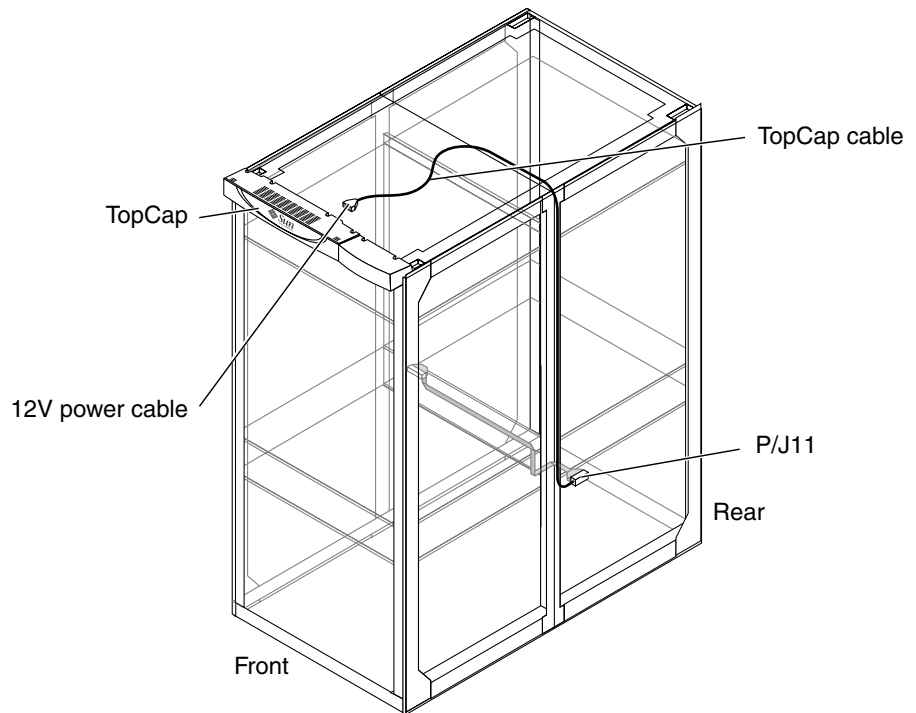

FIGURE 16-13 TopCap Cable
2. Remove the three (3) M4x12 panhead screws holding the TopCap to the chassis.
5. Remove the four (4) M4x12 panhead screws holding the four (4) cable clamps that secure the TopCap cable to the chassis.
6. At the rear of the system, remove the twenty-two (22) M4x30 panhead screws retaining the air plenum cover, and remove both the plenum cover and the honeycomb EMI filter panel.
7. Reach inside the air plenum and release the two (2) male jackscrews holding the internal cable connector to the internal chassis side panel.
8. To remove the right-angle connector, release the two (2) female jack screws using a 3/16-inch nut driver.
9. Remove the external right-angle connector (P/J11) from the chassis side panel (FIGURE 16-13).